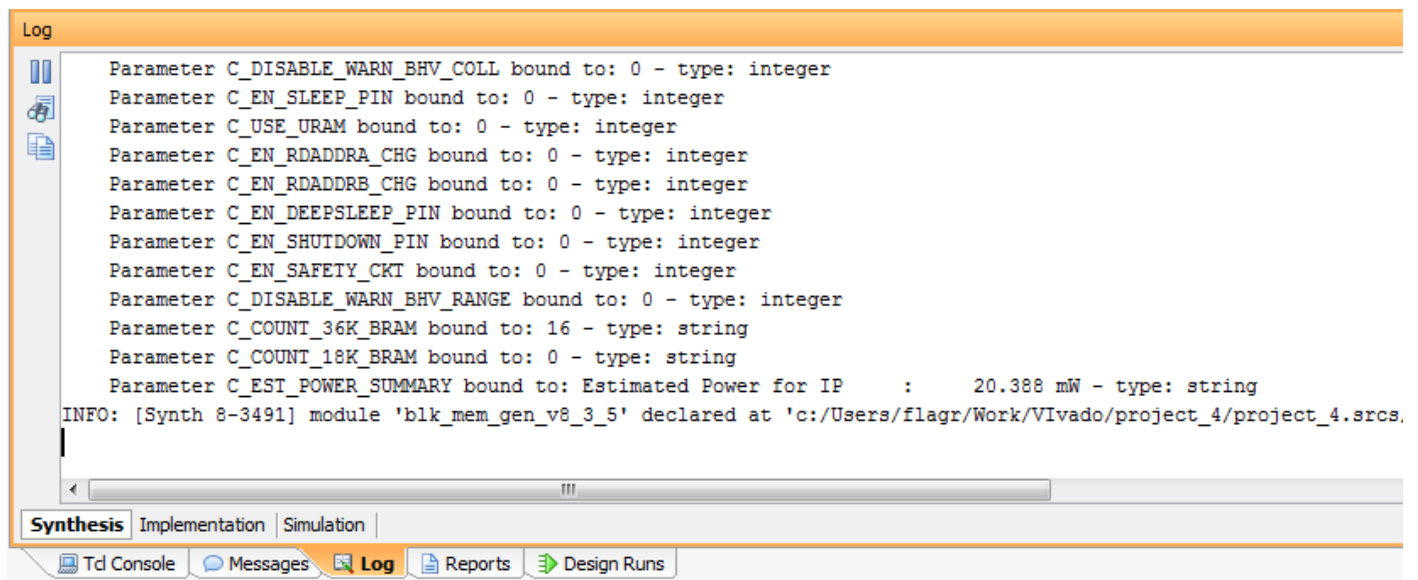

Figure 27: Following the Synthesis Log
1. In the Flow Navigator, click on **Run Synthesis**. This will take some time, but you can check the progress and the output messages in the lower right window, Synthesis **Log** tab (see Figure 27).